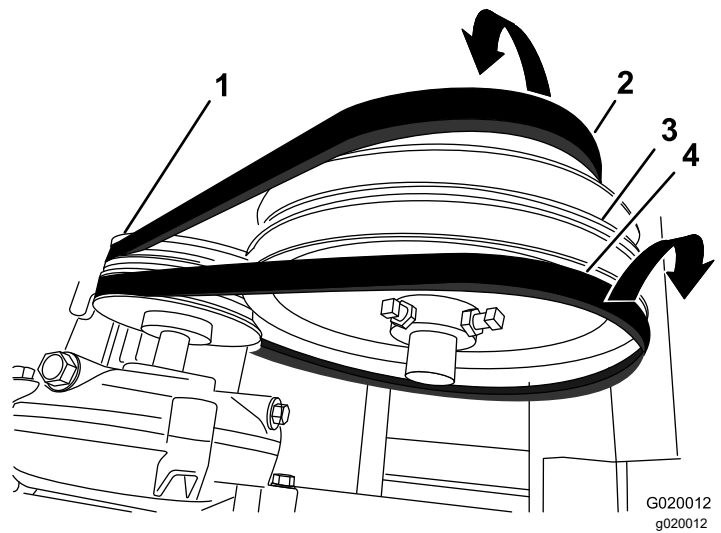

Figure 65
7. Slip the forward belt forward and off the idler pulley (Figure 65).
8. Slip the rear belt rearward and off the idler pulley (Figure 65).